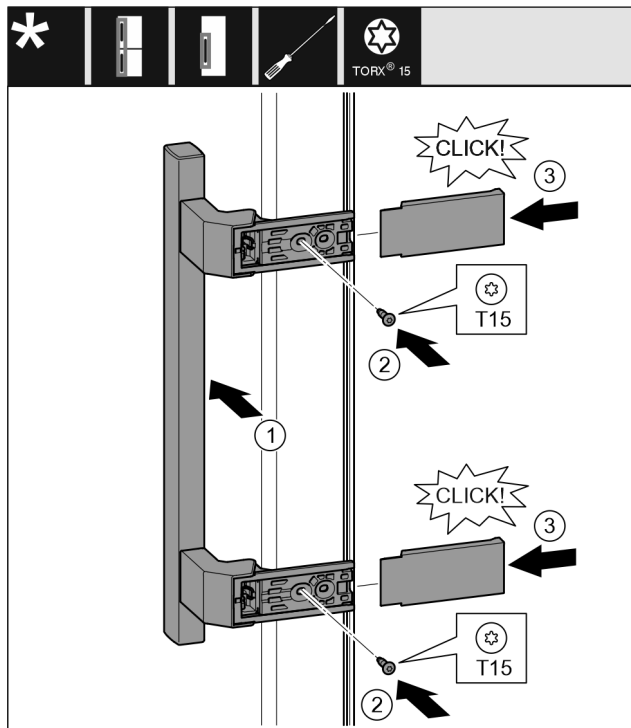

Fig. 18
- Attach the handle on the opposite side. Fig. 18 (1)
- Tighten screws with screwdriver T15. Fig. 18 (2)
- Place the covers on the side and push them on. Fig. 18 (3)